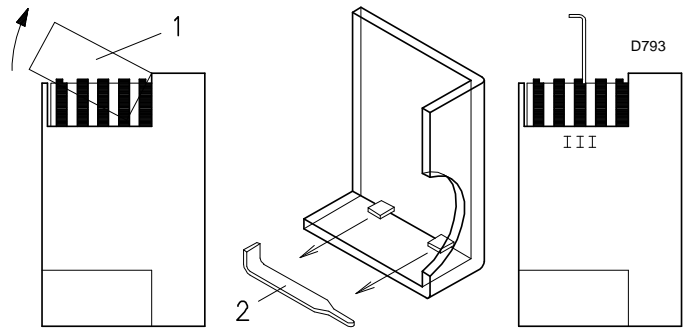

Fig. 27
If it is necessary to adjust cam III, remove the cover 1) (inserted with a trigger catch, as indicated in Fig. 27), extract the special key 2) from inside, and insert it in the notch of cam III.